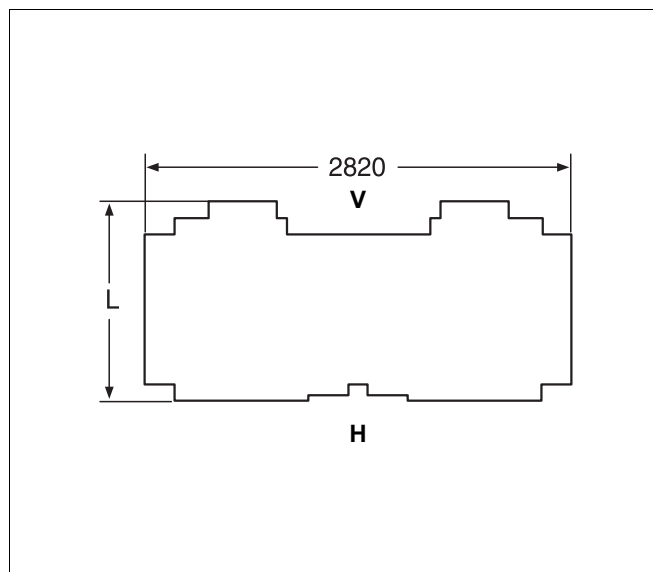

Fig. 32 Thermal insulation
- The thermal insulation supplied corresponds to the respective boiler size (Tab. 1). Arrange the thermal insulation according to the Fig. 32 illustration shown on the boiler block.